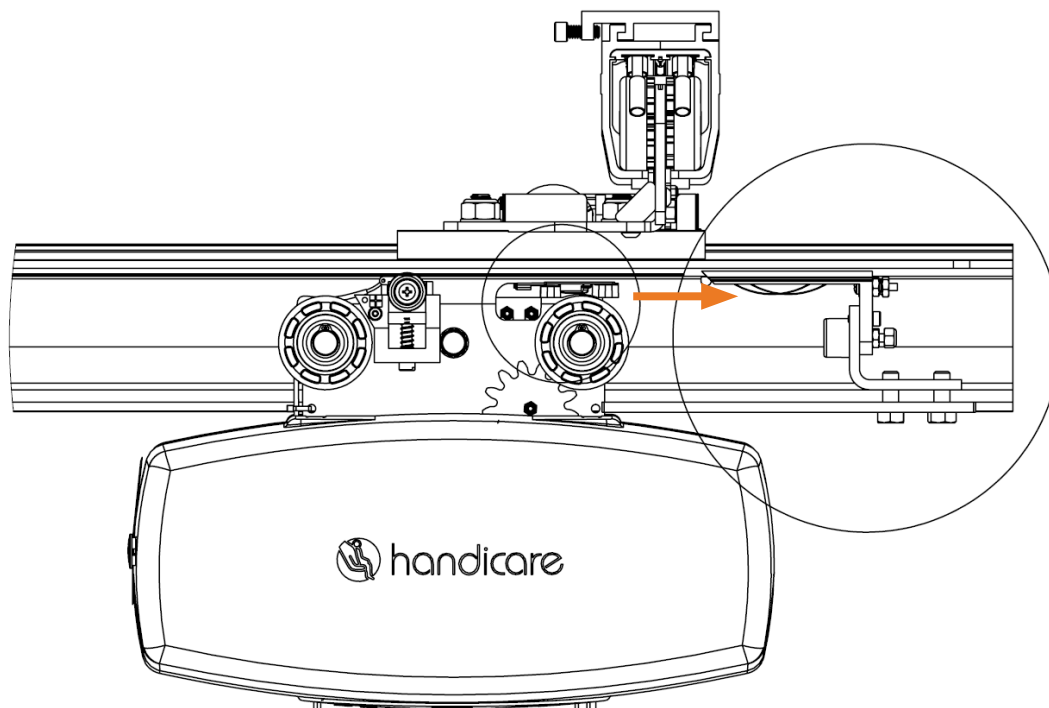

Figure 66: ***Ceiling Lift Contacts***
13. Insert the ceiling lift with the end stop charger side facing the end stop charging bracket (Figure 66).